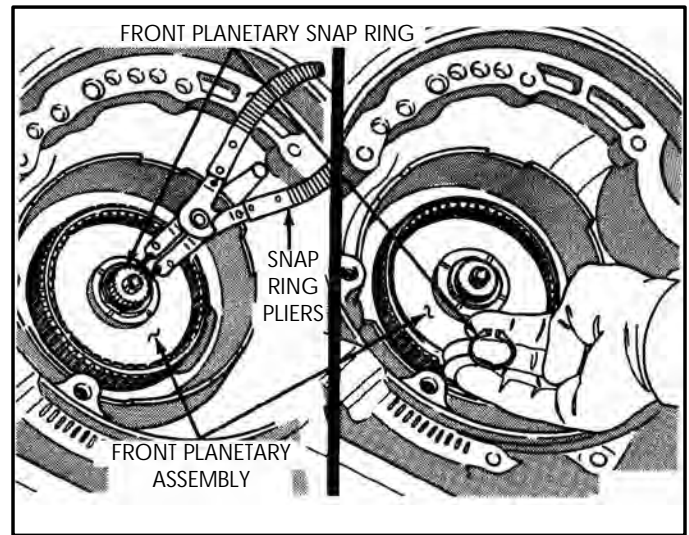

Figure 48
28. Remove the front planetary snap ring using the snap ring pliers, as shown in Figure 48.